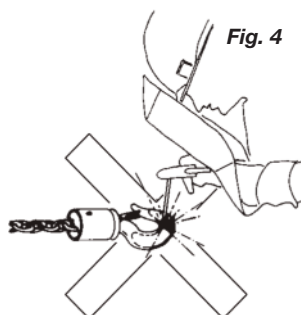

Fig. 4
- Welding on hook and load chain is strictly forbidden. The load chain must never be used as a ground connection during welding (Fig. 4).